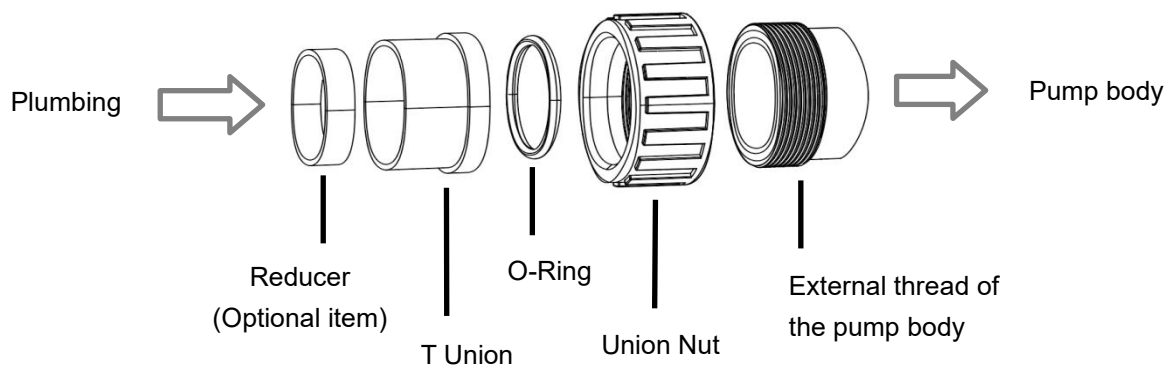

Figure 3 - Union Kit
- 3) Use the UNION KIT supplied by the pump manufacturer (Refer to Figure 3). Do not use fittings other than those provided to connect the pump inlet/outlet, as incompatible fittings may damage the pump body.